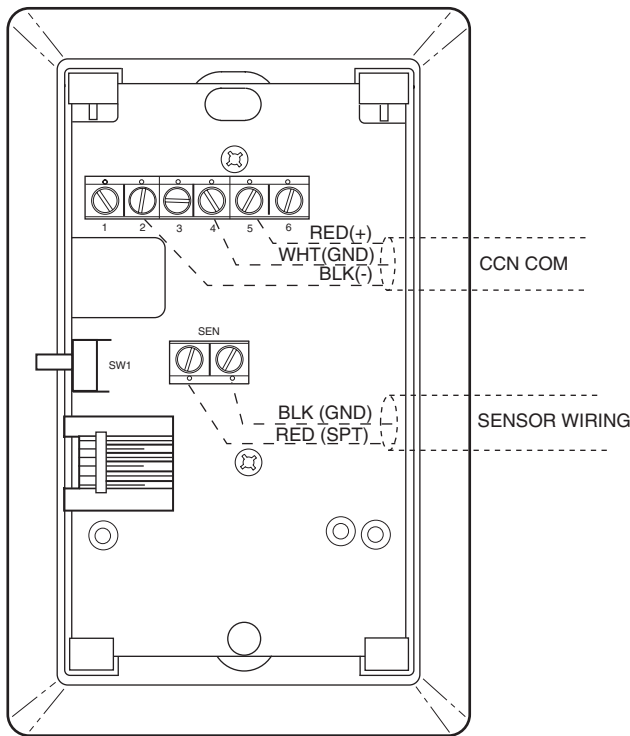

**Fig. 12 — Space Temperature Sensor Wiring
- The CCN network service jack requires a separate, shielded CCN communication cable. Always use separate cables for CCN communication and sensor wiring. (Refer to Fig. 12 for wire terminations.)
Wiring the Space Temperature Sensor (33ZCT55SPT and 33ZCT56SPT) — To wire the sensor, perform the following (see Fig. 12 and 13):
Wiring the CCN Network Communication Service Jack — See Fig. 12, 13, and 14. To wire the service jack, perform the following: